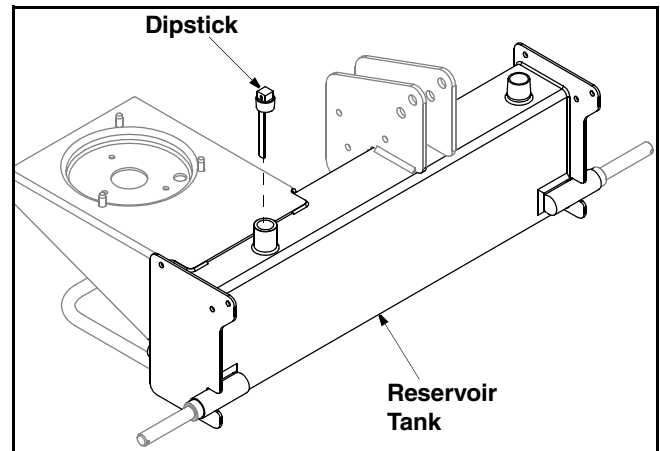

Figure 6
- Remove vented reservoir dipstick, which is located in front of the engine on top of the reservoir tank. See Figure 6.
- Check fluid level using the dipstick. See Figure 6.